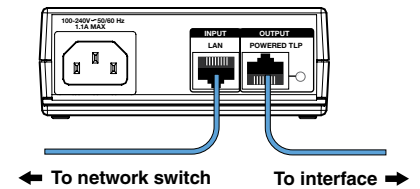

Figure 3. PI 140 Power Injector
- D LAN and PoE+ port** — Use an Ethernet cable to connect this port to the network via a PoE+ power sourcing equipment (PSE, not provided). This can be a power injector (see **figure 3**, on the next page) or PoE+ switch.
Extron recommends the Extron PI 140 power injector (see figure 3). Your power injector may look different.